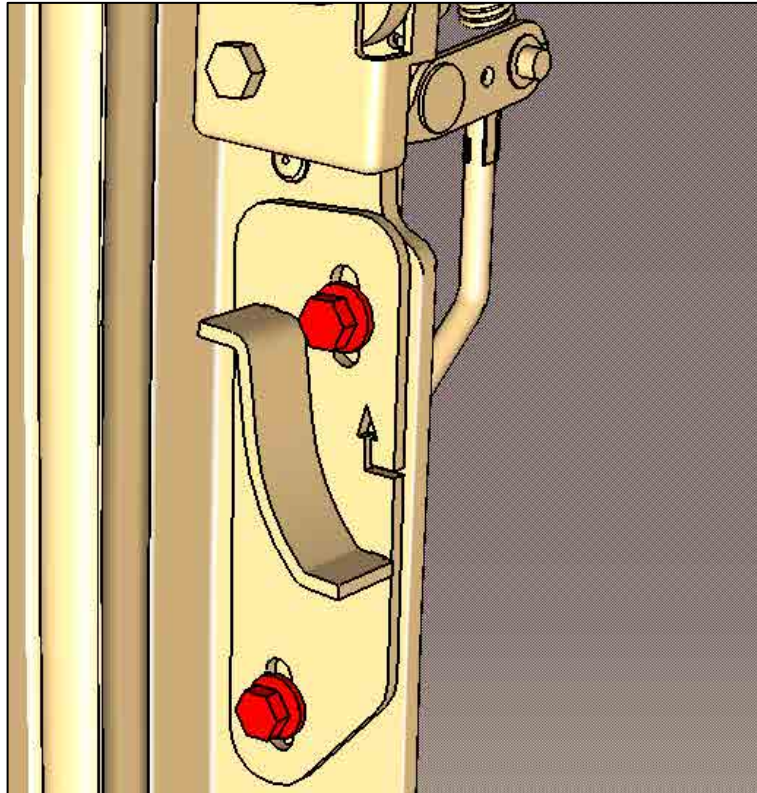
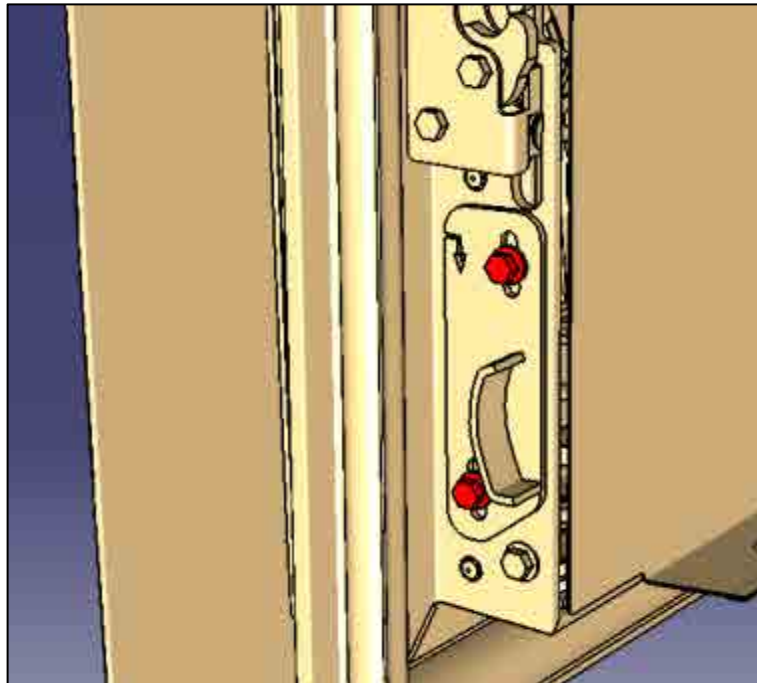

Figure 33
Figure 34
38. On the **upper and lower catch plates** remove one screw at a time and replace the existing washer by one flat and one Belleville. (Figure 33, Figure 34)